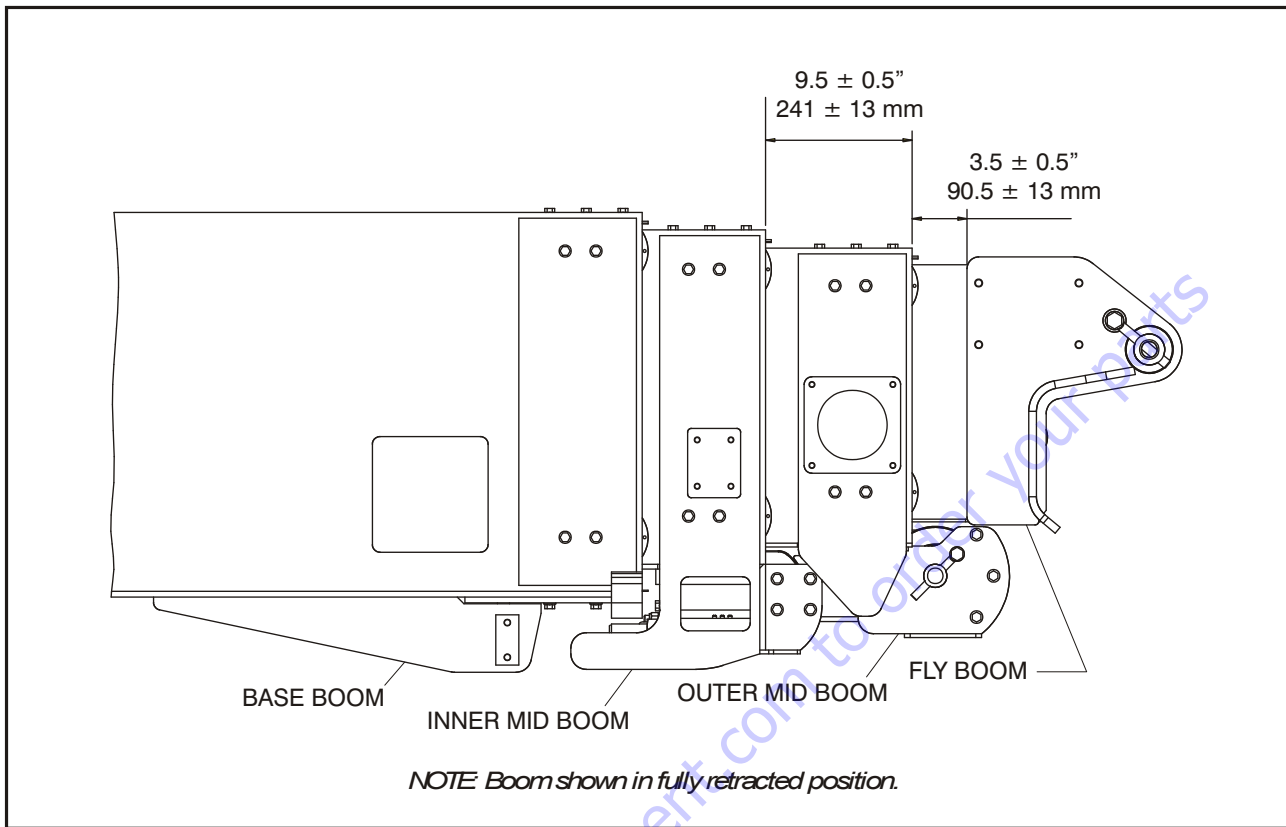

Figure 4-29. Wire Rope Tensioning
Before adjusting wire rope tension, the boom sections must be in the proper position as shown in Figure 4-29., Wire Rope Tensioning. This is so the wire ropes are equalized on both sides of the sheaves and are seated properly in the sheave grooves. This is necessary for proper tensioning of the wire ropes.
3. Take preliminary measurements of the position of each boom section and compare them to Figure 4-29., Wire Rope Tensioning. If the measurements fall within the tolerances in the figure, proceed to Wire Rope Tensioning in this section.
If the measurements do not fall within the tolerances in Figure 4-29., Wire Rope Tensioning, adjust the booms using the re-positioning procedures that follow.
If the Outer Mid Boom falls within the dimension and tolerance of Figure 4-29., Wire Rope Tensioning, proceed to the Fly Boom Section Positioning procedure in this section. If the Outer Mid Boom section is outside of the tolerance as shown, perform the following procedure.
7. Verify that the exposed boom section dimensions meet the dimensions and tolerances of Figure 4-29., Wire Rope Tensioning.
- a. If the Outer Mid Boom still does not fall within the dimension and tolerance of Figure 4-29., repeat the Outer Mid Boom positioning procedure.
- b. If the Outer Mid Boom falls within the dimension and tolerance of Figure 4-29., proceed to the Fly Boom Section Positioning procedure in this section.
NOTE: Because the Outer Mid Boom is used to control the movement of the Fly Boom, any repositioning of the Outer Mid Boom Section will also affect the position of the Fly Boom section. After repositioning the Outer Mid Boom, always check the Fly Boom position per Figure 4-29.
If the Fly Boom section location and the Outer Mid Boom section location are both within the dimensions and tolerances in Figure 4-29., proceed to the Wire Rope Tensioning Procedure in this section.
If the Fly Boom section is outside of the tolerance as shown in Figure 4-29. while the boom assembly is fully retracted, perform the following procedure:
5. Verify that the exposed boom section dimensions meet the dimensions and tolerances of Figure 4-29., Wire Rope Tensioning.
- a. If the Fly Boom still does not fall within the dimension and tolerance of Figure 4-29., repeat the Fly Boom Section Repositioning procedure.
- b. If the Fly Boom falls within the dimension and tolerance of Figure 4-29., proceed to the Wire Rope Tensioning Procedure.
NOTE: Verification of the rope tension should be determined by proper function of the boom assembly and by the dimensions and tolerances of Figure 4-29., Wire Rope Tensioning.